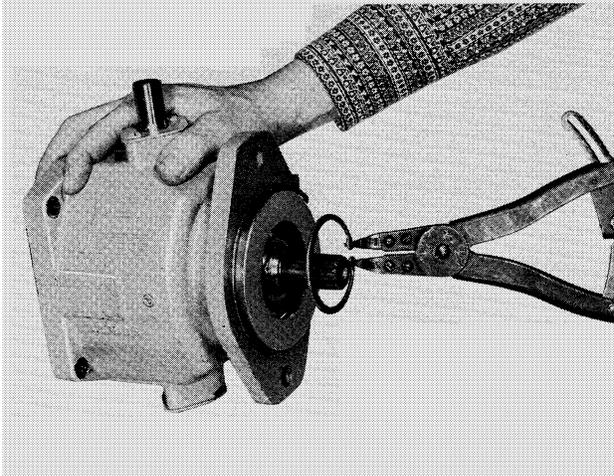

FIGURE 25
15. To remove the shaft, disengage the snap ring and remove as shown in Figure 25.